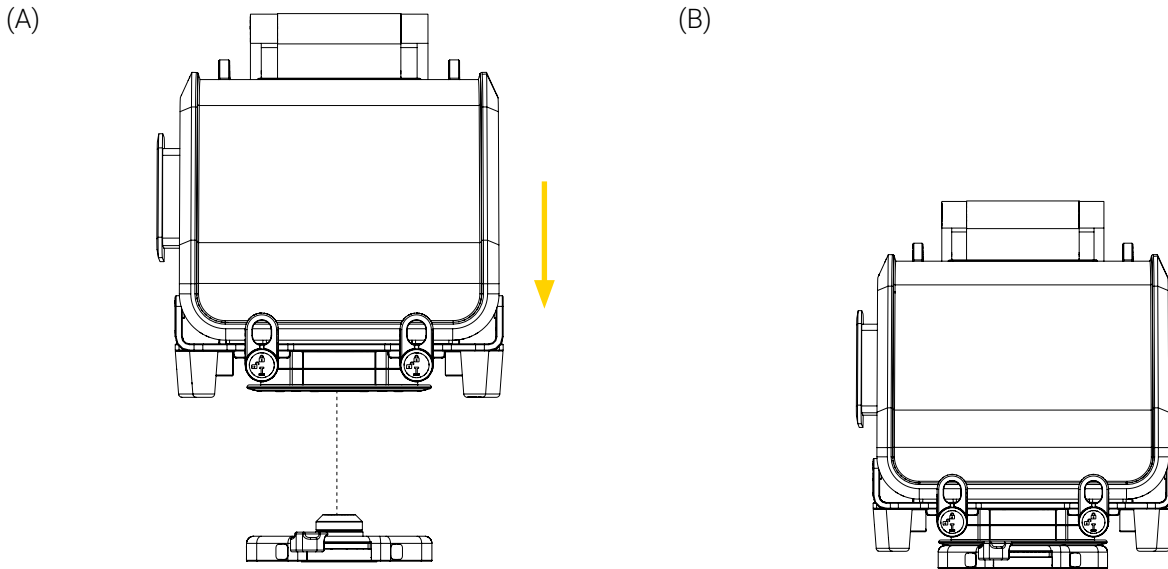

Figure 8: Installing the mounting bracket on the Universal Mounting Base
3. Align and place the mounting bracket vertically on the base, ensuring to insert the locking disc in the bracket (Figure 8).